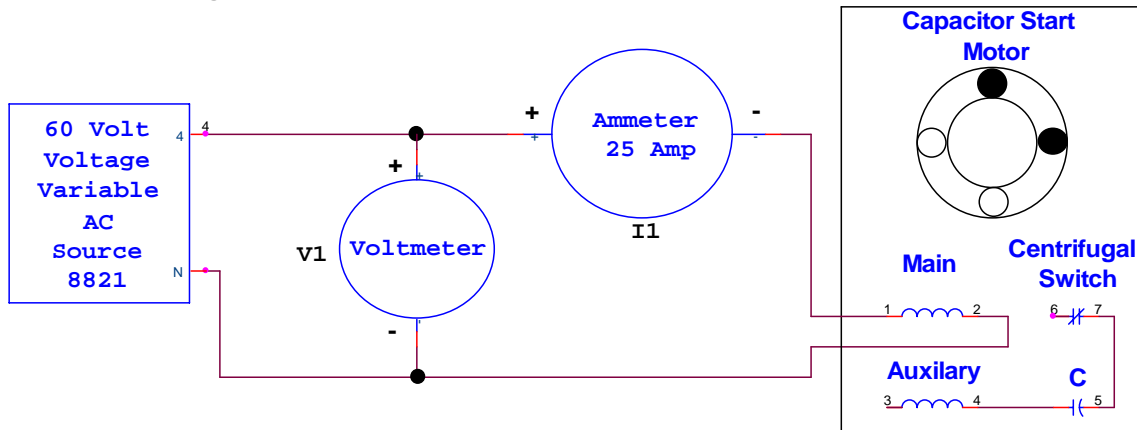

Figure 2: Main winding starting current connection diagram
1. Using your EMS Split-Phase/Capacitor Start Motor, Power Supply and AC Metering Modules, connect the circuit shown in Fig. 2. Note that the variable 120 Vac output of the power supply, terminals 4 and N are